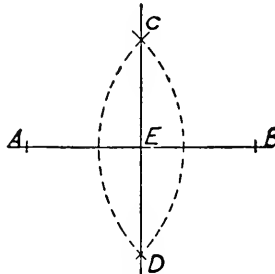

Fig. 574
1. *To bisect a straight line* (Fig. 574).—Let AB be the given straight